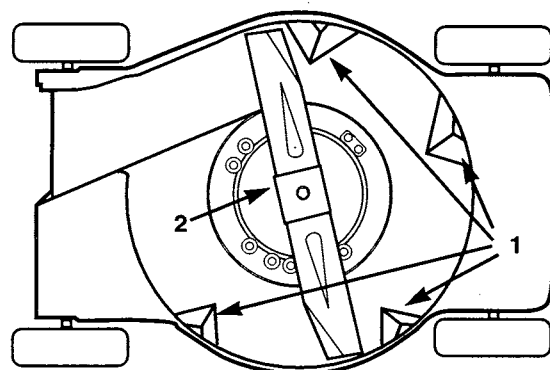

Figure 1
- Four "kicker plates" located on the underside of the mower deck at strategic positions (Fig. 1)
Keep the mower's underside clean. Be especially careful to keep the kickers on the mower's underside free of debris (Fig. 1). When tipping the mower, keep the carburetor side up. Avoid rotating the blade as starting problems may result.